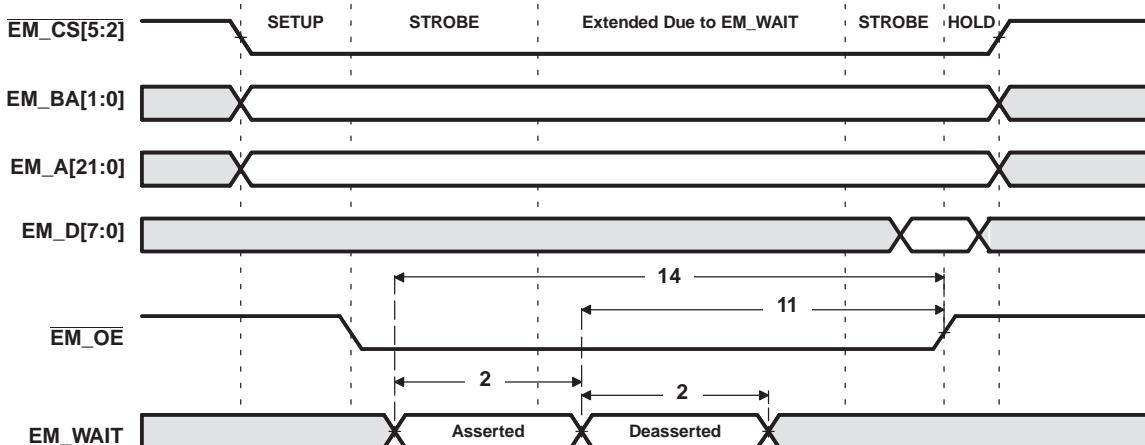
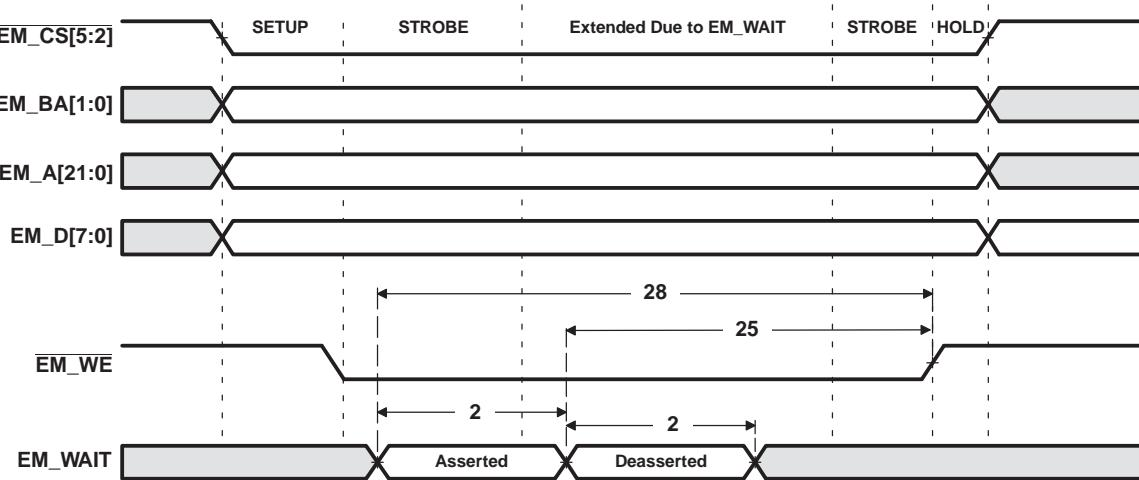

Figure 6-16. EM_WAIT Read Timing Requirements
Figure 6-17. EM_WAIT Write Timing Requirements
(1) E = SYSCLK3 period in ns for EMIFA. For example, when running the DSP CPU at 600 MHz, use E = **10** ns.
(2) Setup before end of STROBE phase (if no extended wait states are inserted) by which EM_WAIT must be asserted to add extended wait states. Figure 6-16 and Figure 6-17 describe EMIF transactions that include extended wait states inserted during the STROBE phase. However, cycles inserted as part of this extended wait period should not be counted; the 4E requirement is to the start of where the HOLD phase would begin if there were no extended wait cycles.